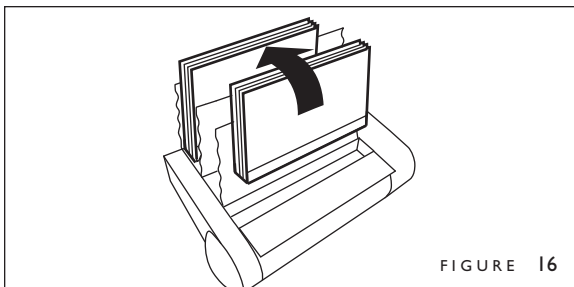

FIGURE 16
7. As soon as the display flashes "REMOVE BOOK," pick up the document and place it against a cooling fence (figure 16). Let it cool for five minutes.